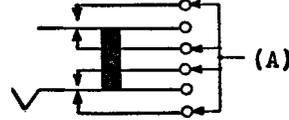

Fig. 9
- Fig. 9(A)—Normal Contact Sequence Break-Make Combinations:** Normally closed contacts operated directly by a plunger spring of an individual spring assembly shall break before the normally open contacts of the same assembly directly associated with the plunger spring make by—0.005 inch (Readjust—0.006 inch).